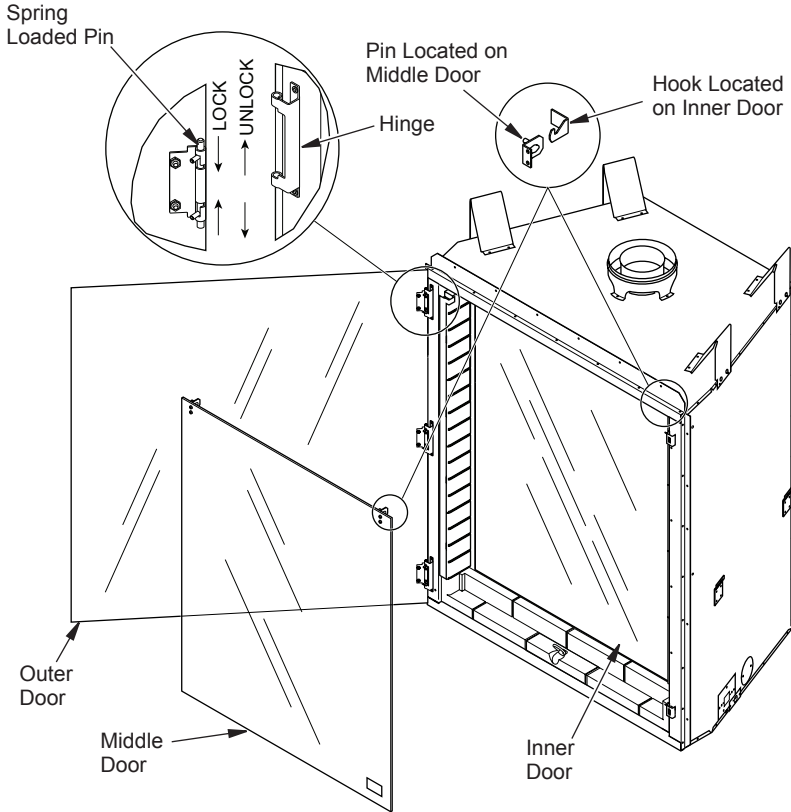

Figure 26 - Removing/Installing Middle Door
Middle door hangs on 2 hinges from top of inner glass door (see Figure 26, page 19).
2. Angle middle door so top goes into fireplace first. Hang middle door on brackets at top of inner door (see Figure 26, page 19).
2. There are three spring loaded pins on outer door. Set pins to the locked position (see Figure 26, page 19).
3. Position outer door so pins line up with mating hinges on fireplace. Holding door in place, release locks on spring loaded pins (see Figure 26).
2. Remove middle door by lifting from hinges (see Figure 26). Set aside to avoid scratches or damage.